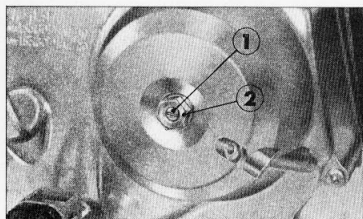

Figure 33. ① Clutch adjuster ② Lock nut
- d. From this point, back off the adjuster in the clockwise direction 1/8 to 1/4 turn, and tighten the lock nut. (Fig. 33)